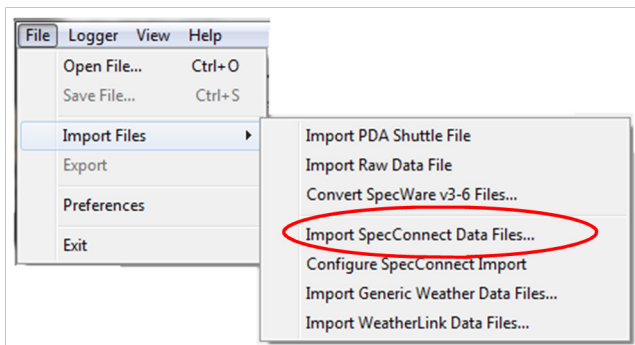

Figure 19 - Import SpecConnect Data Files Button
- In SpecWare, click File - Import Files - Import SpecConnect Data Files to import a SpecConnect export file (Figure 19).